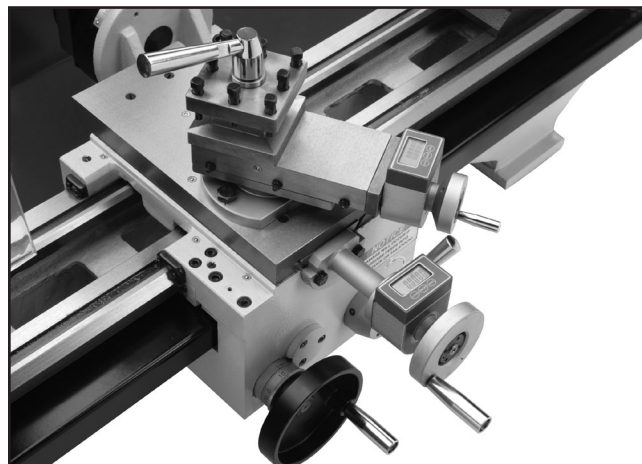

Figure 33. Compound slide attached to cross slide to complete the DRO installation.
20. Install the compound slide on the cross slide, as shown in **Figure 33**.